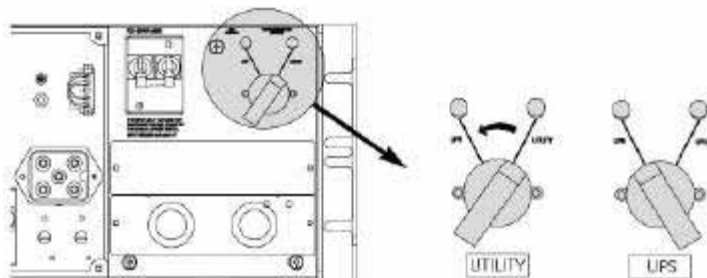

FIG 43 – 6KVA PDU BYPASS SWITCH
3. Ensure that the manual bypass switch on the PDU is turned to the "UPS" position (FIG 43).